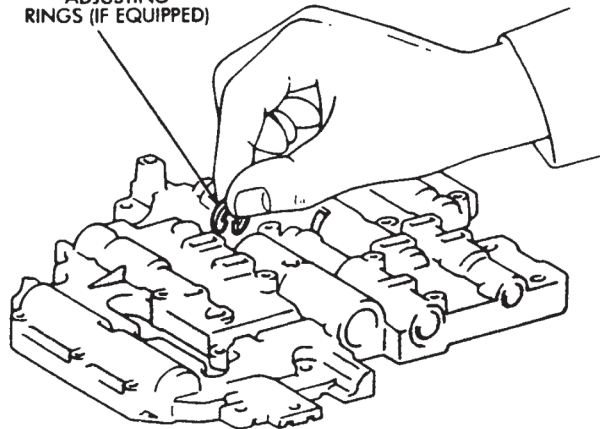

Fig. 17 Install Throttle Valve Adjusting Rings – If Equipped
(12) On models with adjusting rings, turn upper body over and install adjusting rings (Fig. 17). Be sure to install same number of rings as were removed.